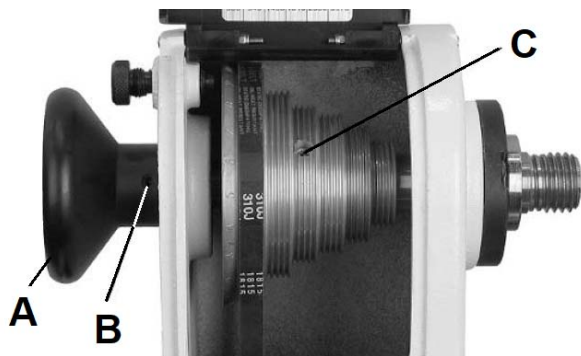

Fig 33
Loosen two set screws (B, Fig 33) and unscrew the hand wheel (A).